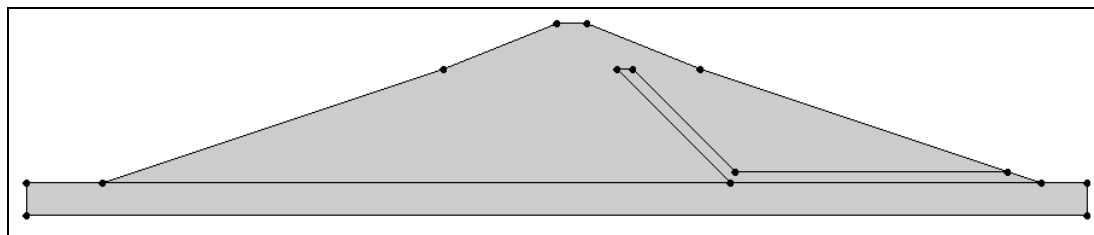

Figure 2. Arcs connecting points.
- Using Figure 2 below as a guide, click on the points to connect them with arcs to create the slope.